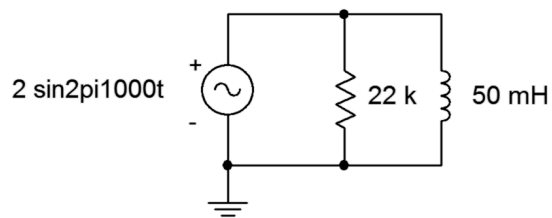

Figure 3.7
12. Determine the three branch currents for the circuit shown in Figure 3.7 and draw their phasor diagram.